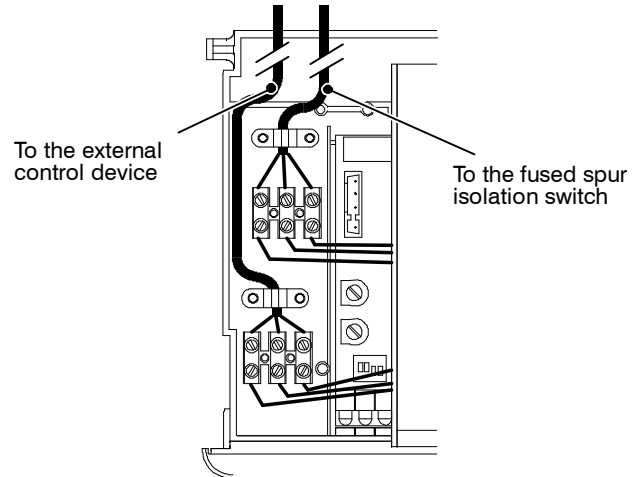

Fig. 6.14
- 9 Route the electrical supply flexible cord and the external control flexible cord as illustrated in Fig. 6.14.